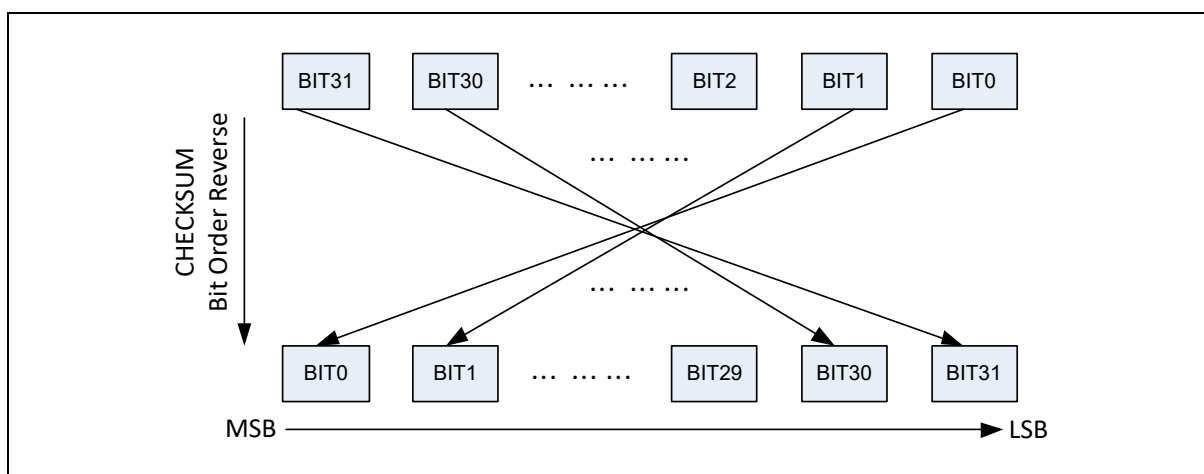

Figure 6.23-2 CHECKSUM Bit Order Reverse Functional Block
- Configure bit order reverse for CRC checksum by setting CHKSREV (CRC_CTL[25] Checksum Bit Order Reverse). The functional block is also shown in Figure 6.23-2 Figure 6.23-2 CHECKSUM Bit Order Reverse Functional Block